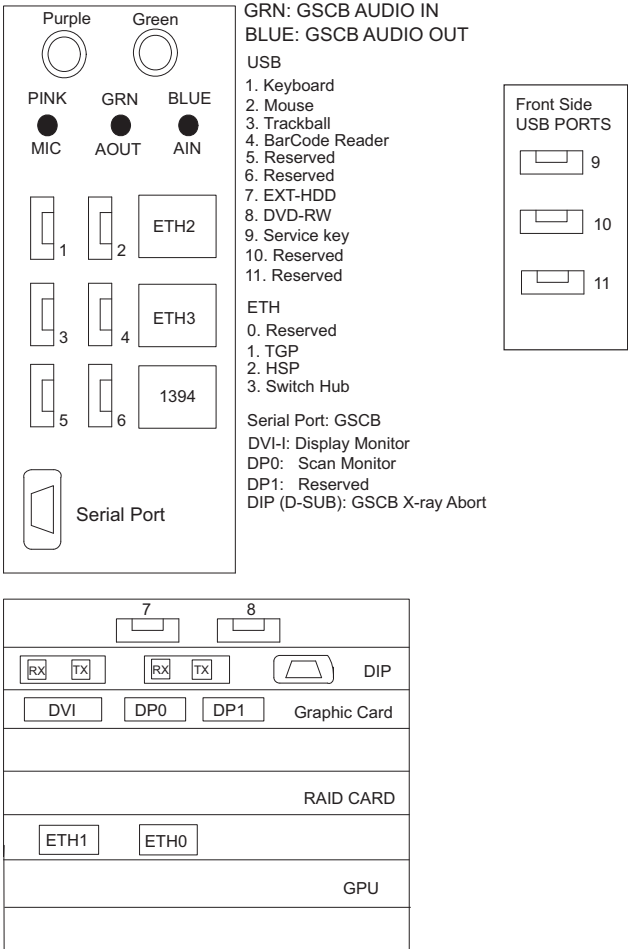

Figure 2-10 Host Computer Connections
2.) Connect the all cables (see Table 2-4) to the rear of Host Computer referring to the drawing below (Figure 2-10).The drawing is also printed on the right rear door of the console.